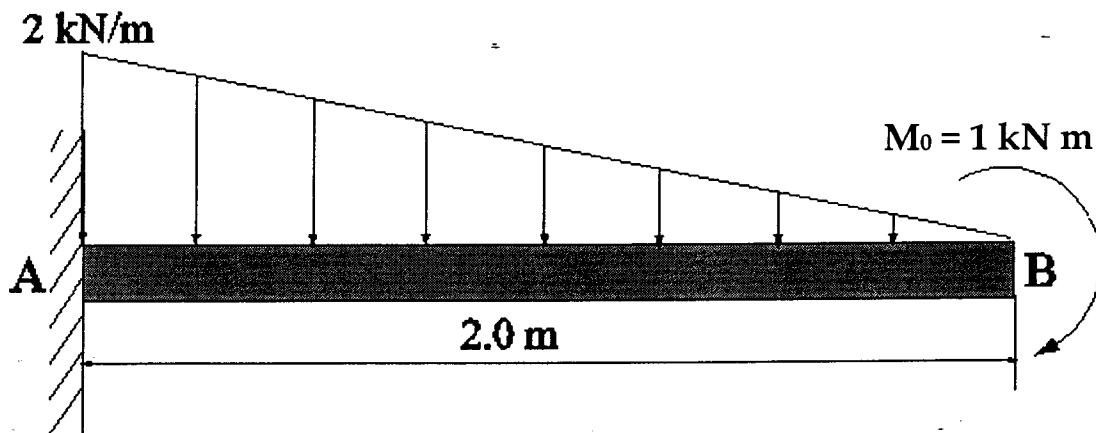

Figure Q2
- Q2.** The cantilever beam is subjected to the distributed loading and moment M_0 shown in Figure Q2.